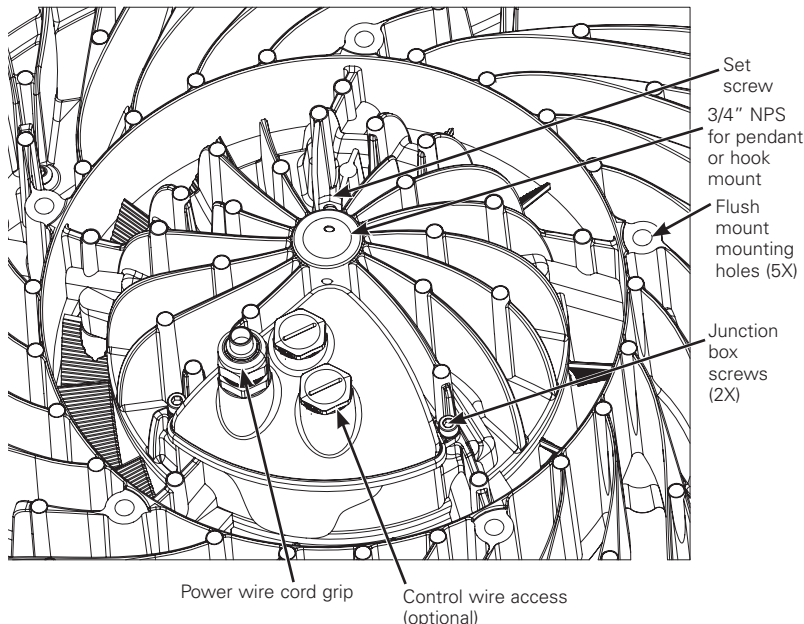

Figure 2
1. Remove the two (2) junction box screws using a 3/16" hex Allen wrench (see Figure 2).